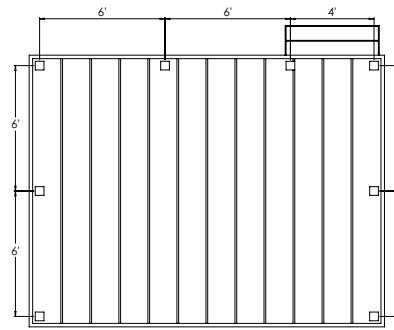

fig. 4
Step 1 Determine the layout and number of railing posts needed for your deck. Post spacing is 6' or 8' on-center. Posts are available pre-drilled for end, line, and corner posts. Many layout options are possible. For example: A 12' x 16' deck attached to a building with a 4' access opening on one side will require a total of eight posts (fig. 4). The use of more than 2 corner posts per cable span will limit your ability to adequately tension the cables so you may want to position any double posts away from the area requiring the least interference to your view. *Note: Don't install the cable until all of the posts, rails, and spacers have been installed.*